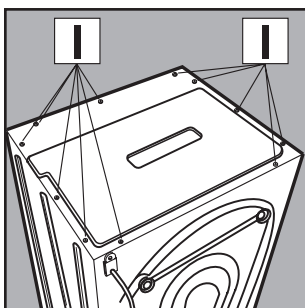

Fig. 13
2. Remove the cover by unscrewing screws I [fig. 13].